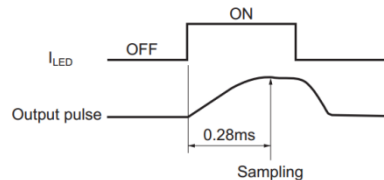

Figure 2: Sampling timing of output pulse
- 2) Wait 0.28ms, then the external controller starts to sample the voltage from the pin A_{OUT} of the module. Notes that the output wave will take 0.28ms to reach steady state after the internal infrared emitting diode is enabled, as Figure 2 shows.